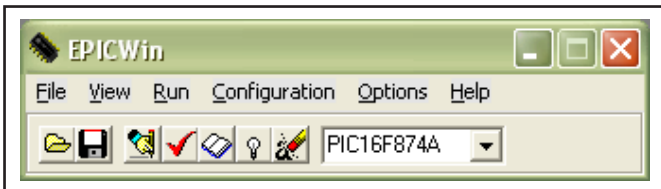

Figure 5.
1. Start the Epic Programming software by clicking on *Start-> Programs-> melabs Programmer-> melabs Programmer*. Once the programmer is up and running, it loads a form. See figure 5.